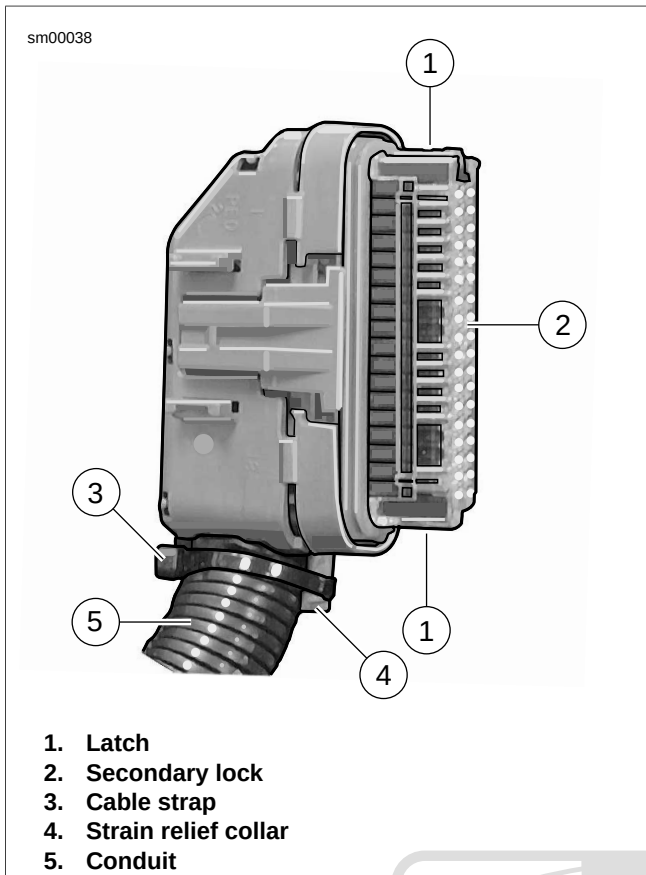
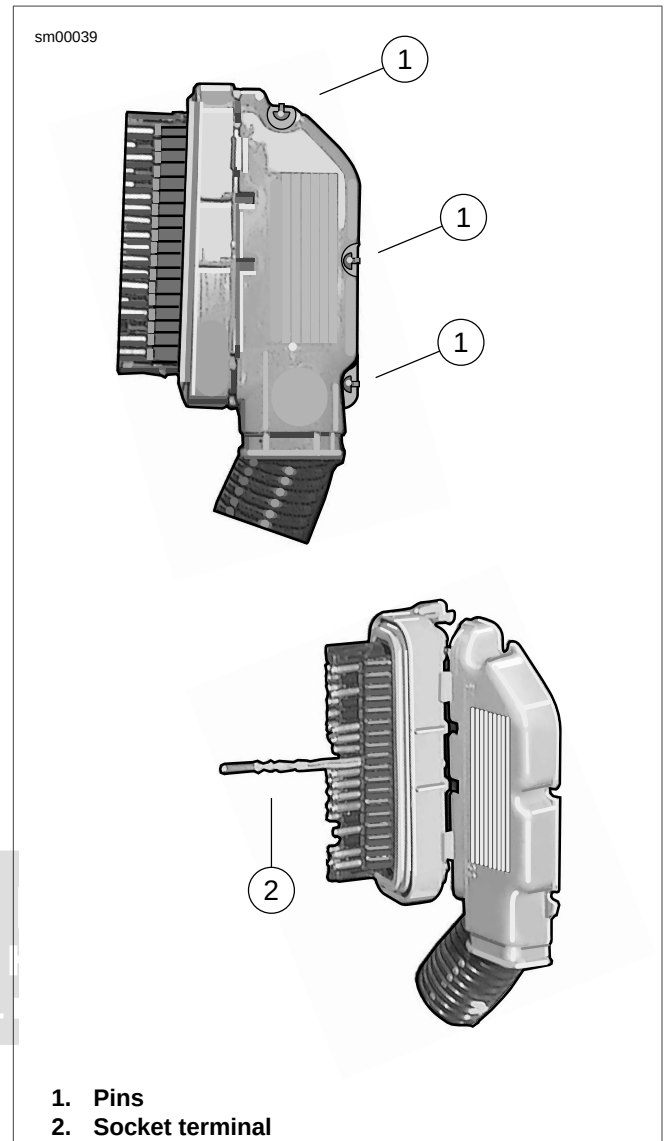

Figure A-4. Delphi 100W Micro-Pack Sealed Connector
Figure A-5. Delphi 100W Micro-Pack Sealed Connector:
1. See Figure A-4. Gently press latch (1) on each side of the clear plastic secondary lock (2) and remove. For best results, release one side at a time.
2. Carefully cut cable strap (3) to free strain relief collar (4) from conduit (5).
3. See Figure A-5. Using a thin blade, gently pry at seam at back of socket housing to release three plastic pins (1) from slots in housing. Separate and spread halves of socket housing.